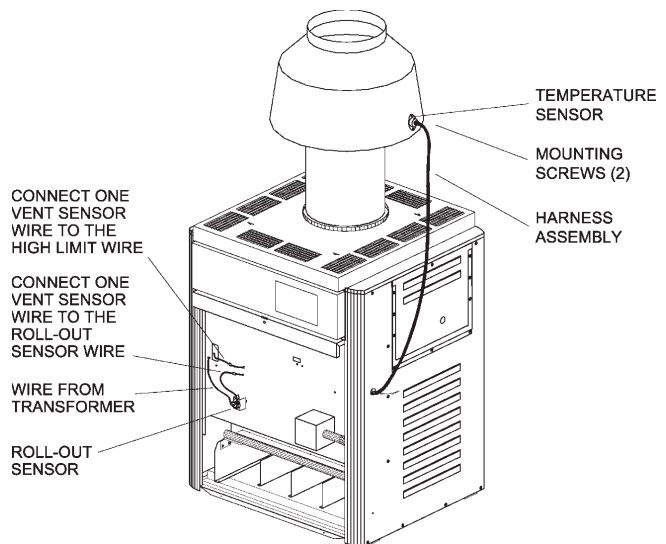

Fig. 12: Boiler After Drafthood Installation—Models 181-401 & 182-400
- Mount drafthood on top of boiler as shown in Fig. 12. Drafthood should be positioned with the vent sensor located on the front right side as shown.